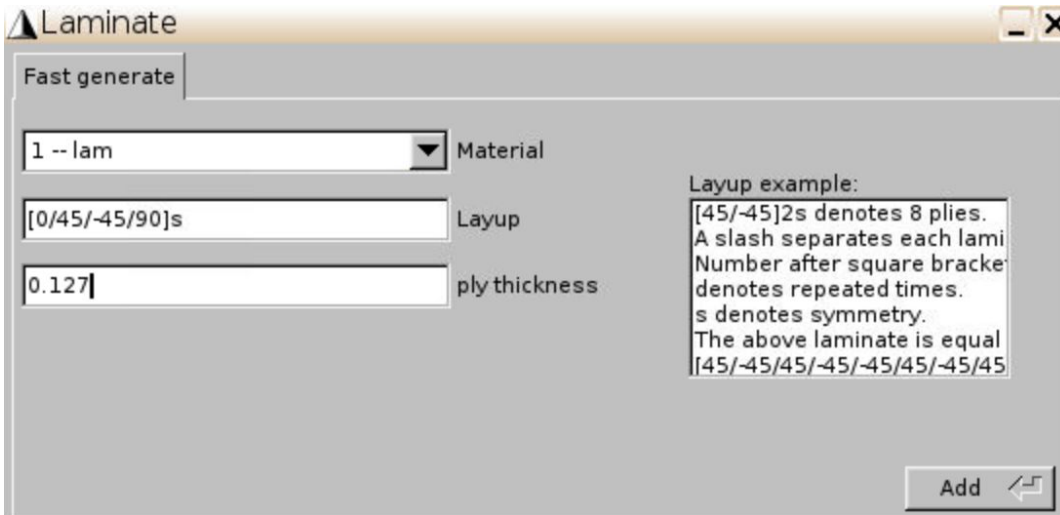

Fig. 2
- Click Geometry->Common SG-> 1D SG->Fast generate. Select the material defined in the above and input the layup and thickness of each layer as shown in Fig. 2.